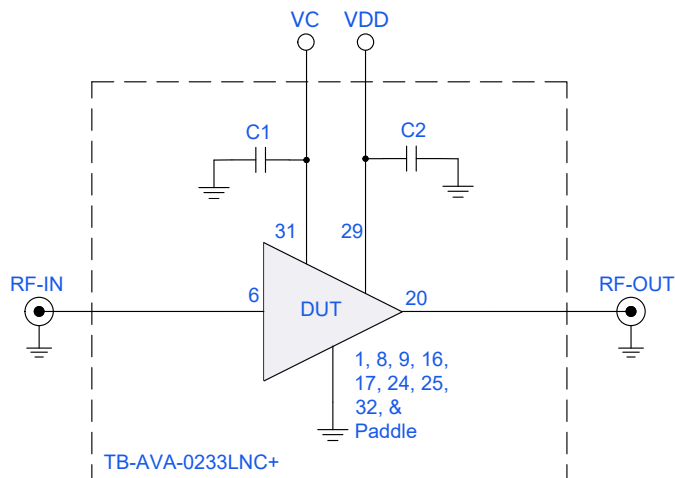

Fig 1. Characterization and Application Circuit
1. Measured on Mini-Circuits Characterization Test Board TB-AVA-0233LNC+. See Characterization and Application Circuit (Fig.1).